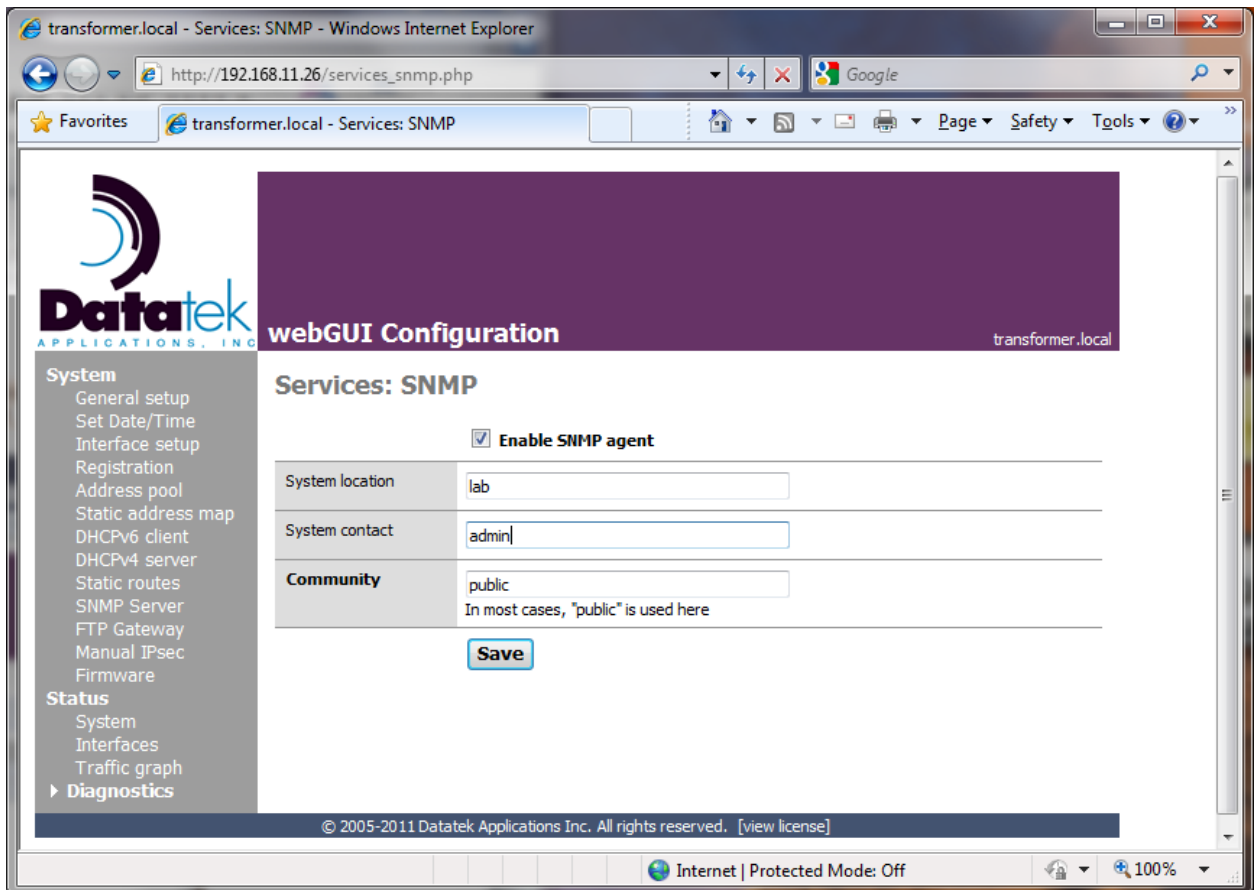

Figure 19. SNMP Server Screen
**Figure 19 - SNMP Server Screen** shows a checkbox which the user can select to enable the SNMP agent. It also has descriptor fields to identify the location of the Transformer, system contact information and the community the Transformer is part of.